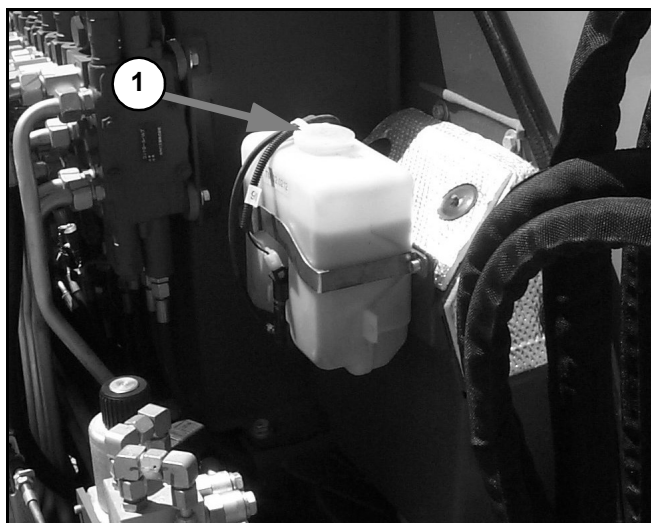

Figure 4-22 Windshield Washer Tank
3. Open the windshield washer tank cover (1, Figure 4-22) and fill the tank with windshield washer fluid.